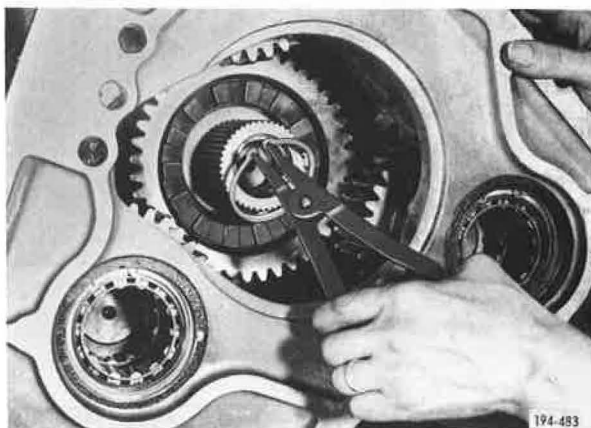

Figure 5-579. Removing Lo-Range Gear Retaining Snap Ring
3. Through rear case front opening, remove Lo-range gear retaining snap ring. Then remove Lo-range gear front thrust washer. See Figures 5-579 and 5-580.